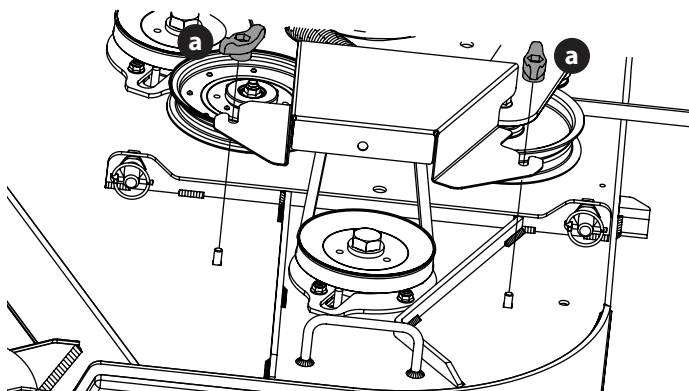

Figure 19
- Remove the wing knobs (a) securing the belt covers to the deck (Figure 19).